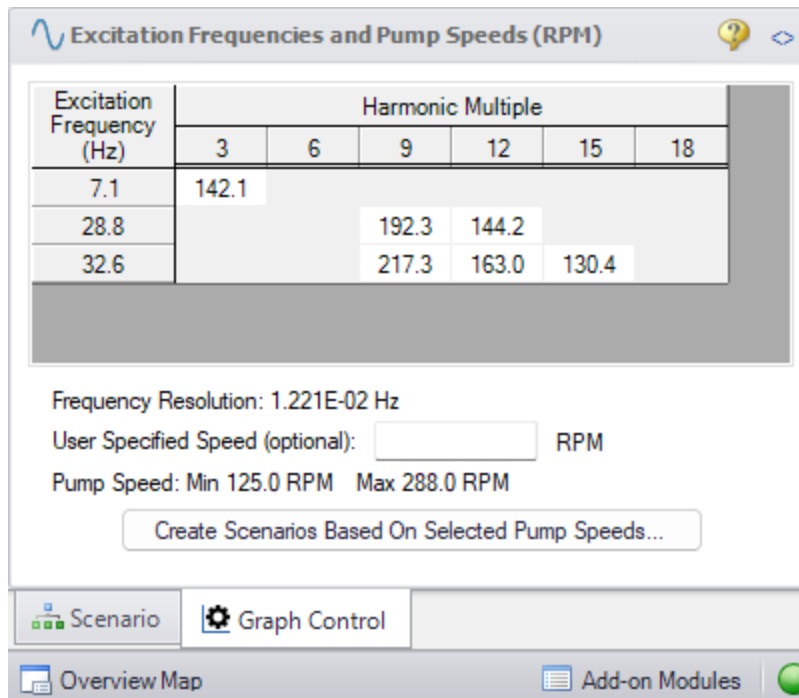

Figure 14: Pump RPM Evaluation Panel with Excitation Frequencies and their Harmonic Multiples Displayed
- e. Repeat steps a through c for the local maxima at the frequencies of 28.85 Hz and 7.104 Hz. Figure 14 shows the Pump RPM Evaluation Panel with the excitation pump speeds displayed.